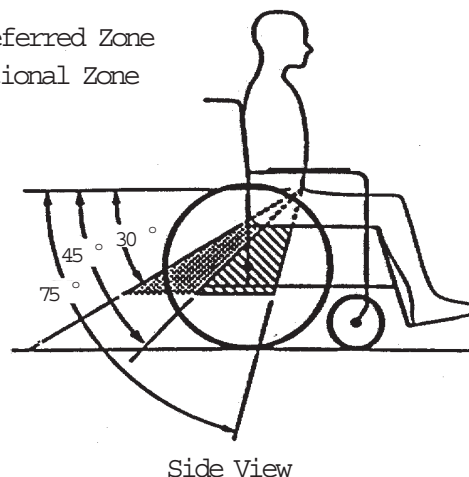

FIGURE 2 - ZONES OF PREFERRED AND OPTIONAL ANGLES FOR PELVIC BELT
Correct positioning of occupant restraint belt(s) are shown in FIGURE 2.
1. The pelvic belt should be worn low across the front of the pelvis, so that the angle of the pelvic belt is within the preferred zone of 45 to 75 degrees to the horizontal, or the optional zone of 30 to 45 degrees to the horizontal, as shown in FIGURE 2.